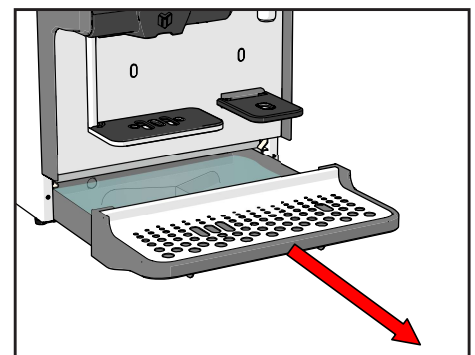

Figure 24.
1. Carefully remove the drip tray from the machine (see Figure 24).
15. Carefully remove the drip tray from the machine (see Figure 24). Empty the drip tray and clean the drip tray and the grid with lukewarm water and a brush.